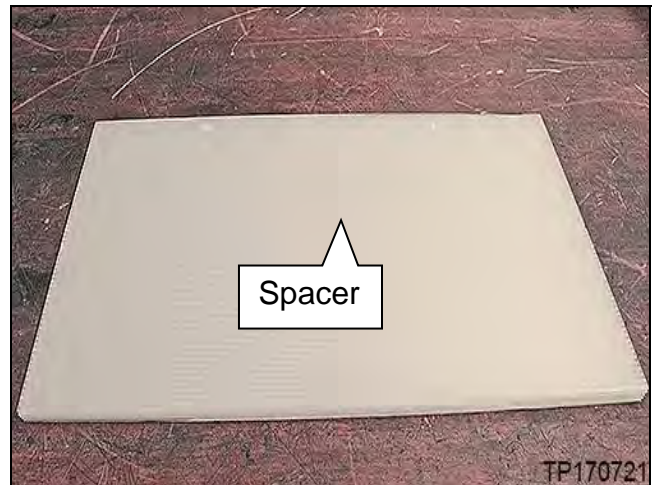
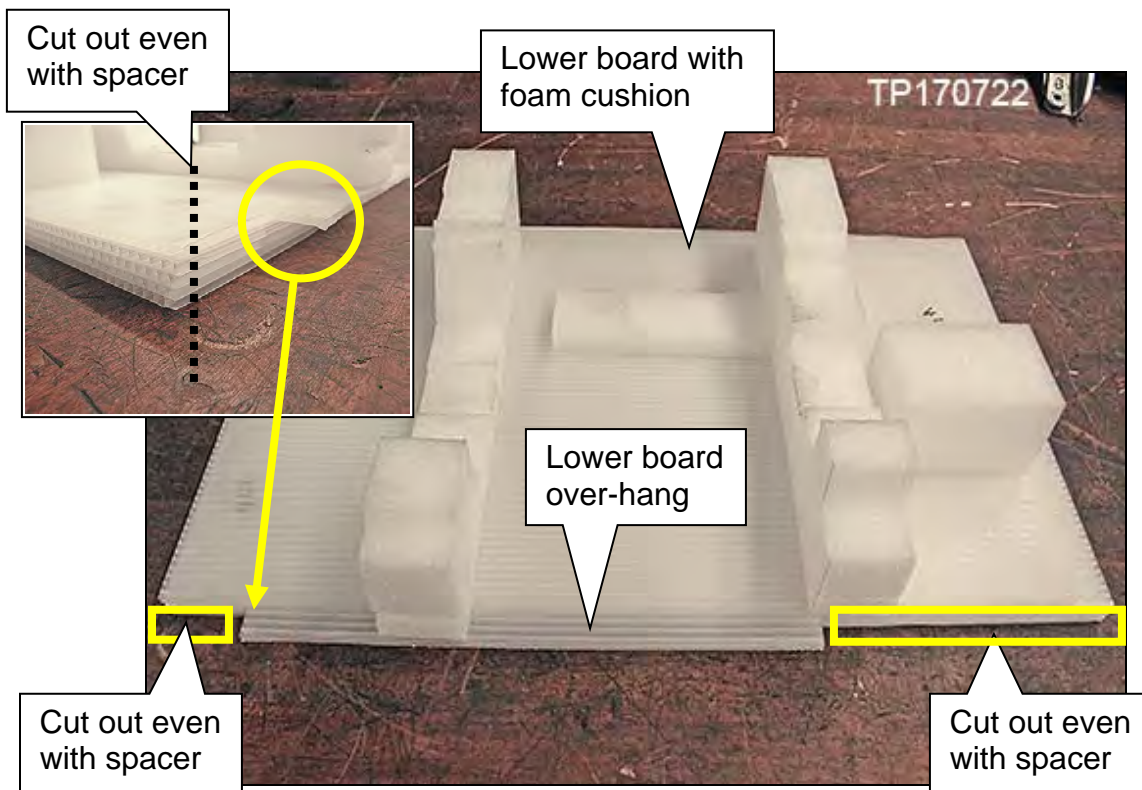

Figure 6N
Figure 7N
6. Take the lower board with foam cushion (lower board) out of the shipping box (shown in Figure 7N).
**IMPORTANT:** Step 7 is for kits that have a separate spacer (Figure 6N). In later kits this spacer will be part of the lower board and step 7 will not be used.
7. Take the spacer (Figure 6N) out of the shipping box and place on the work bench where the sub-assembly will be installed, and then place the lower board on top of the spacer as shown in Figure 7N.